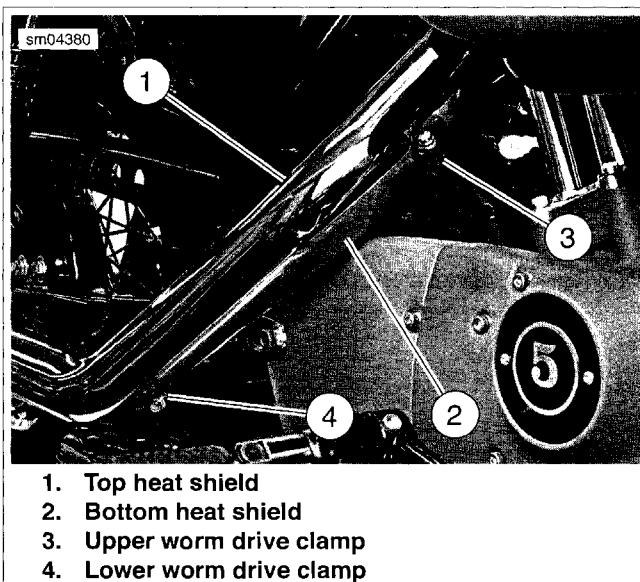

Figure 4-70. Rear Exhaust Pipe Heat Shields: Vehicles with Mid Controls
See Figure 4-70. Vehicles with mid controls are equipped with an extra heat shield (2) on the rear exhaust pipe.
7. Place **new** Torca clamp assemblies (6) over slotted end of each muffler. Install each muffler onto the end of its respective exhaust pipe.
8. Rotate both mufflers until their mounting bosses line up with holes in muffler interconnect bracket. Carefully mate each muffler with exhaust port in interconnect bracket. Loosely install flanged bolts (16). Do not tighten at this time.
- d. Tighten rear exhaust pipe clamp nut (22) to 20-30 ft-lbs (27.1-40.7 Nm).
10. Plug in O2 sensor connectors (30). Front connector [138] is mounted on left front frame downtube. Rear connector [137] is attached to the ECM caddy on the left side of the vehicle. See 4.13 OXYGEN SENSOR.
- a. Open worm drive clamps (13) and install heat shields (11, 12) on exhaust pipes. Position each clamp so that screw is on the outboard side in the most accessible position.
- b. **Vehicles with mid controls:** See Figure 4-70. Tighten lower worm drive clamp (4) a few turns. Slide lower portion of bottom heat shield (2) into lower worm drive clamp. Engage upper portion of bottom heat